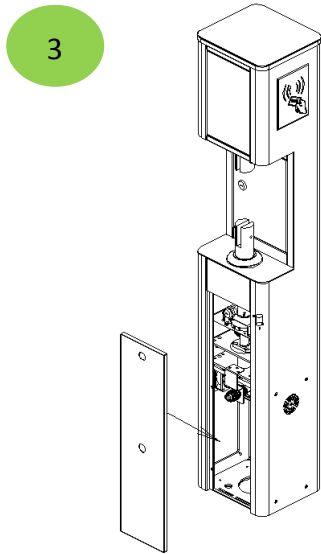

Figure 2-4C
7. Close the access cover, as shown in Figure2-4C.